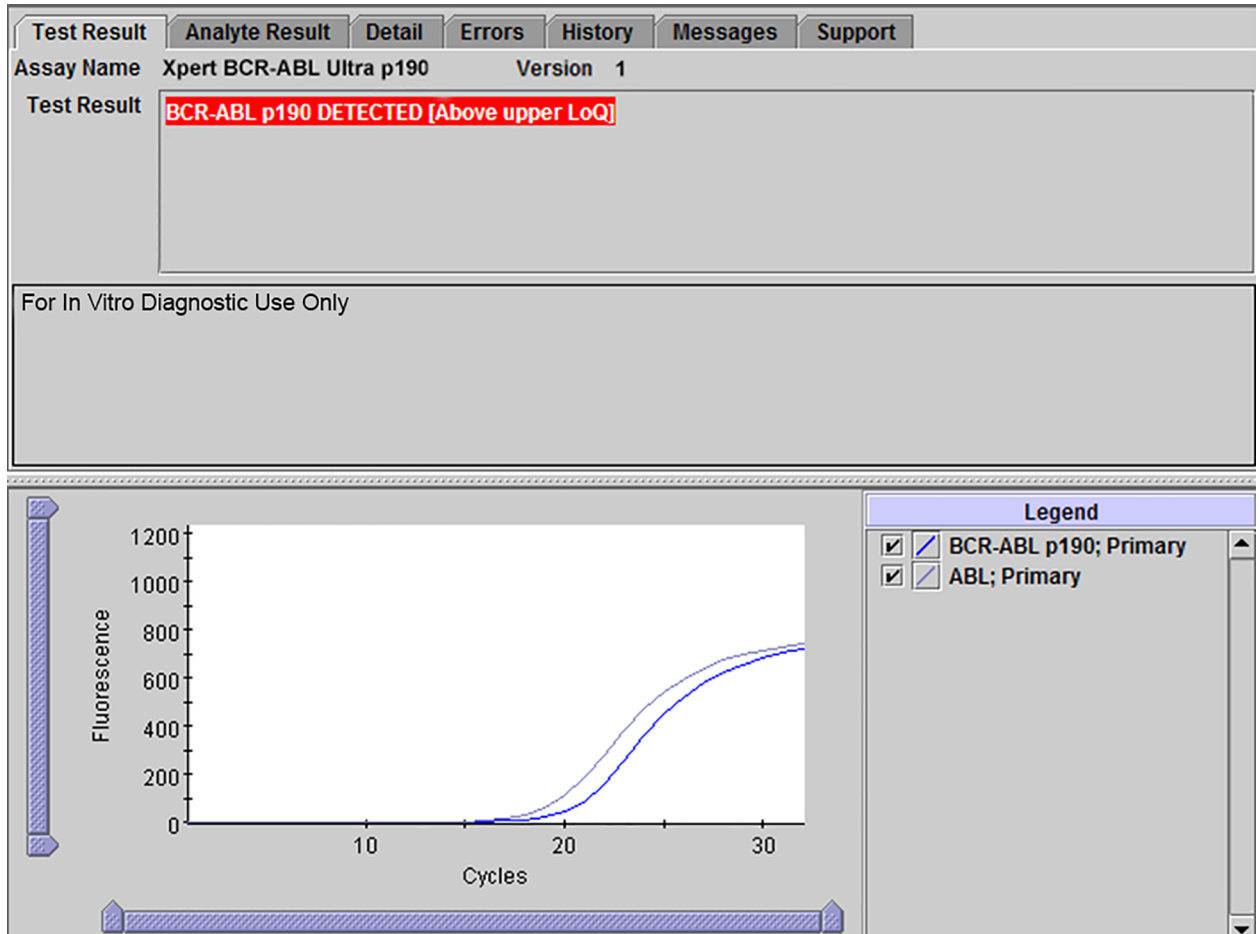

Figure 4. GeneXpert Dx View Results Window: BCR-ABL p190 DETECTED [Above upper LoQ]
|   |  |              | BCR-ABL p190 DETECTED [Above upper LoQ]               | Calculated% value is above the limit of quantitation and is not reported. See Figure 4. |
**Result:** **BCR-ABL p190 DETECTED [Above upper LoQ]**. See Figure 4.